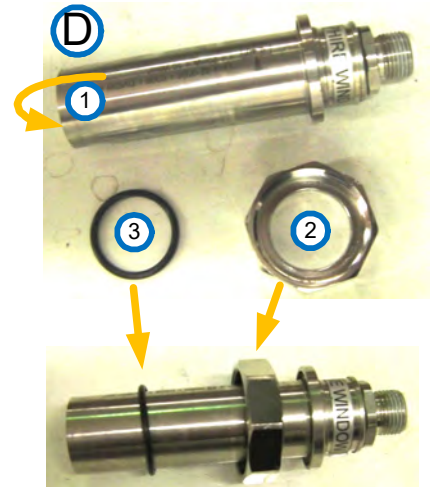

Figure 10-28: Sensor, washer and nut
Step 7. When replacing a sensor, remove the nut **(2)** and the washer **(3)** shown in **Figure 10-28** below.